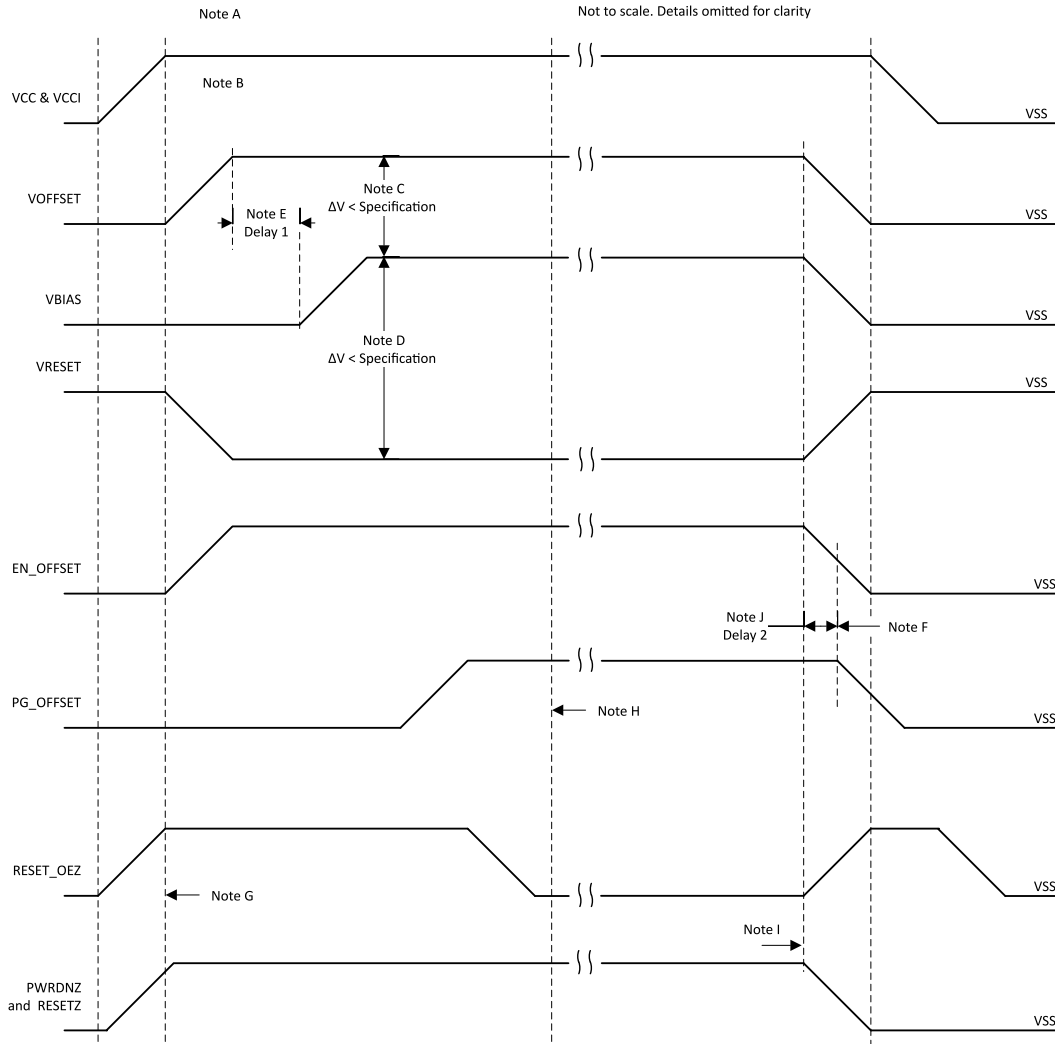

图 9-1. DMD Power Supply Requirements
For reliable operation of the DMD, the following power supply sequencing requirements must be followed. Failure to adhere to any of the prescribed power-up and power-down requirements may affect device reliability. See 图 9-1 in 节 9.2.
- Power supply slew rates during power-up are flexible, provided that the transient voltage levels follow the requirements specified in 节 6.1, in 节 6.4, and in 图 9-1.
- Power supply slew rates during power-down are flexible, provided that the transient voltage levels follow the requirements specified in 节 6.1, in 节 6.4, and in 图 9-1.